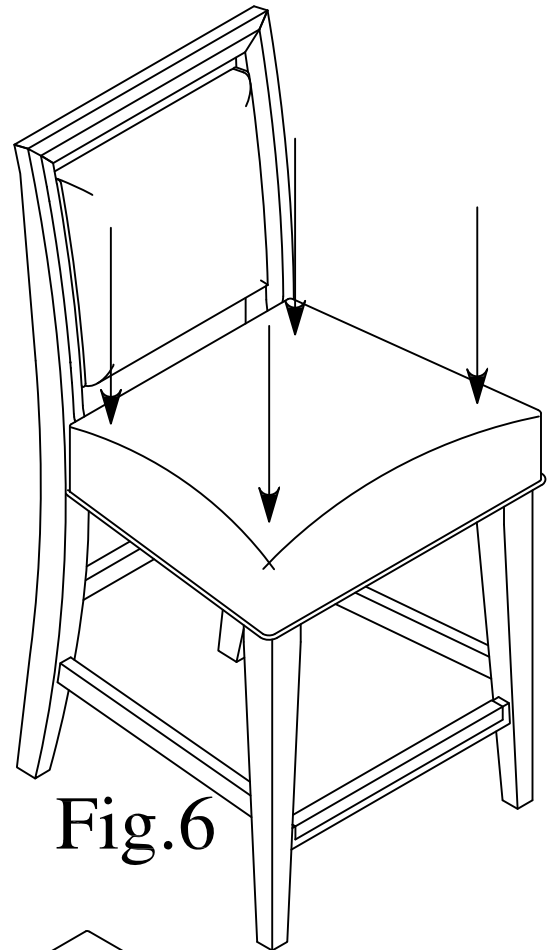

Fig.6
Step 6: Place the loosely assembled Barstool on a hard flat surface and apply gentle downward pressure on the seat. As shown on Fig.6. Once the Barstool is balanced and leveled, fully tighten all bolts.